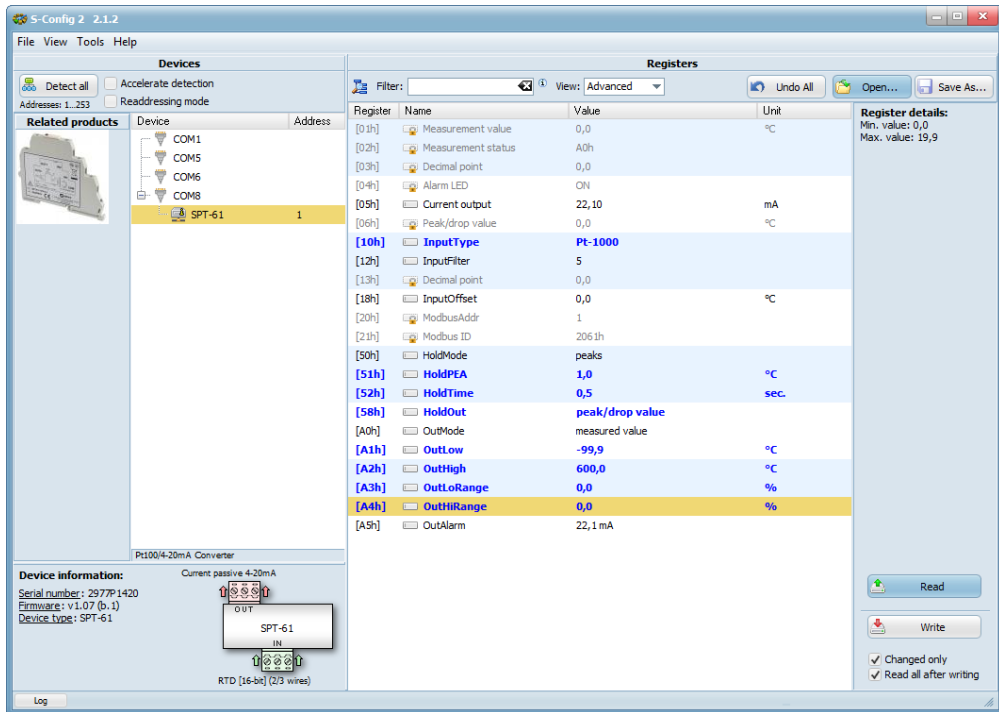

Figure 6.4. Example of device configuration
- all other parameters should be set as default (see Figure 6.4),